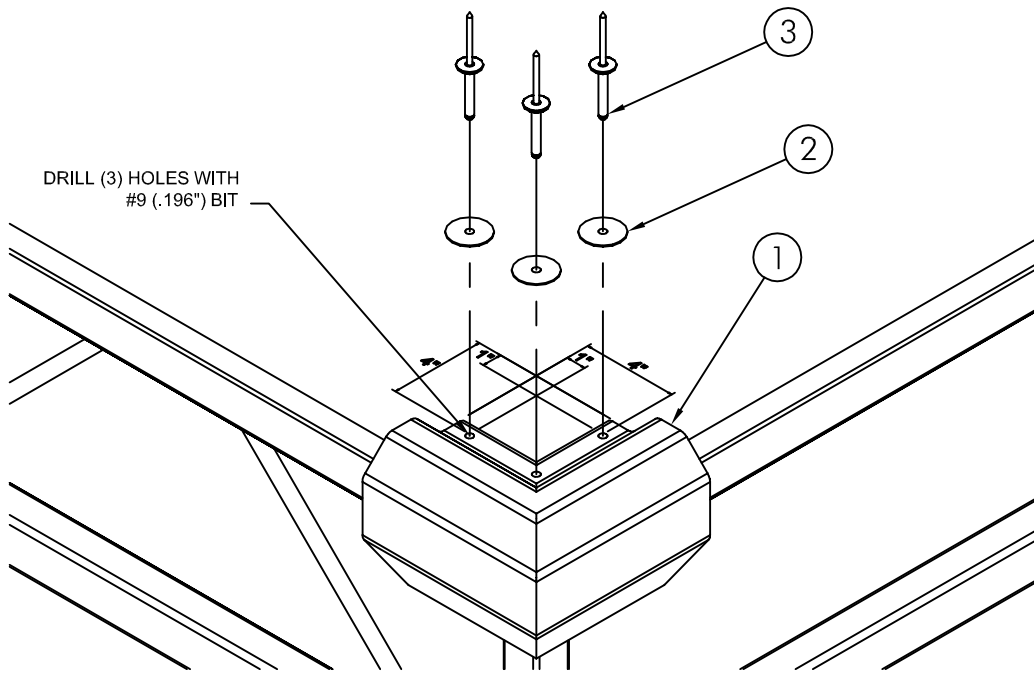
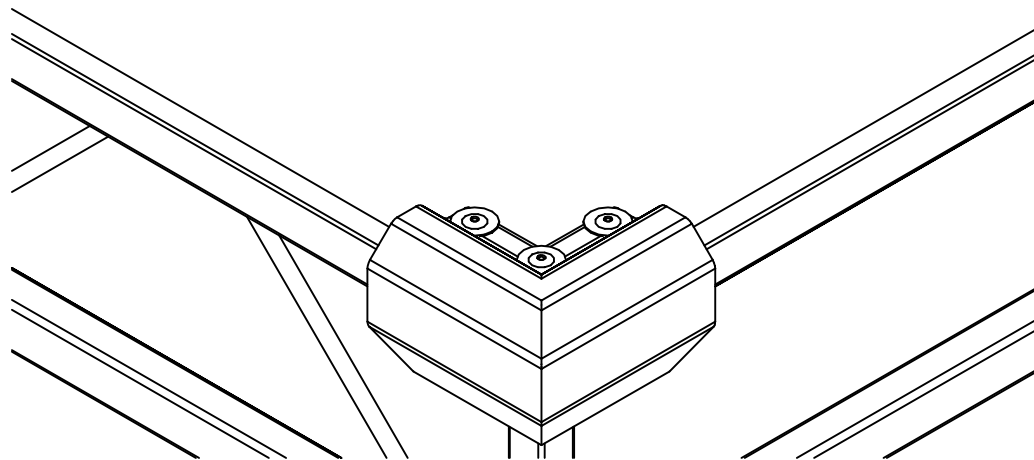

Fig. 1
Fig. 2
Locate bumper on corner of dock and drill (3) holes with a #9 (.196") in the locations shown by the dimensions in Fig. 1. These holes are to be drilled all the way through the decking material and through the top side of the support tube in the dock frame.
Put (3) rivets and (3) fender washers and insert into the holes you drilled through the corner bumper. See Fig. 1. Be sure the rivet is pushed down all the way into the hole you drilled in the top of the dock support tube and secure rivets with rivet tool. See Fig. 2